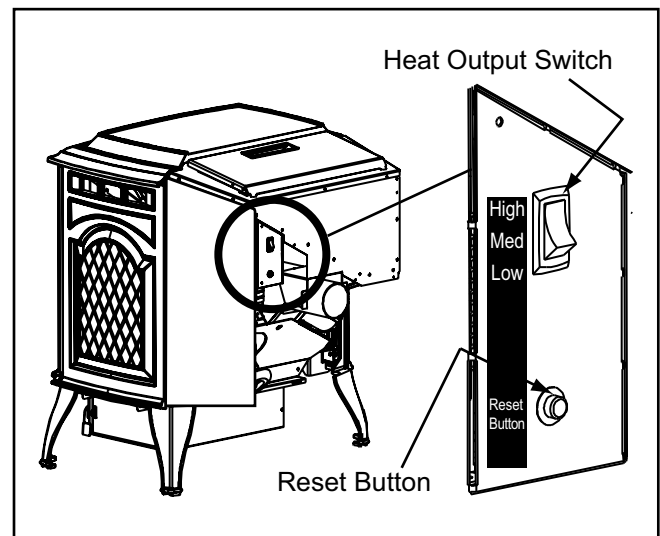
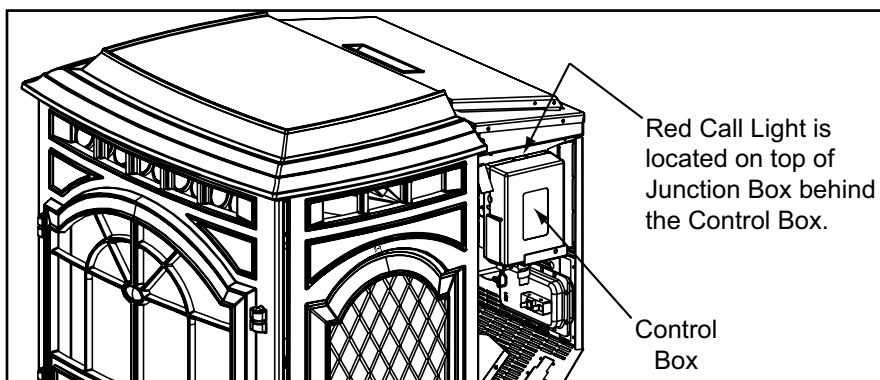

Figure 21.1
Figure 22.1
3. Locate the heat output control switch mounted on the back of the appliance in the upper right corner. **See Figure 21.1 on page 21.** Turn it to the "high" setting by pushing the top of the control switch in and then adjust the thermostat to its highest setting. Open the right side panel and the red call light located behind the control box will be on. **See Figure 22.1.** This indicates the thermostat is calling for heat.
3. Occasionally the appliance may run out of fuel and shut itself down. When this happens, the red call light will be on. **(See Figure 22.1, page 22)**. To restart it, fill the hopper and press the reset button. **(See Figure 21.1, page 21)**. When you press the reset button the red call light will go out. Release the button and the light will come back on. You should see a fire shortly. If not, follow the instructions on **page 22**, of “Starting Your First Fire”.